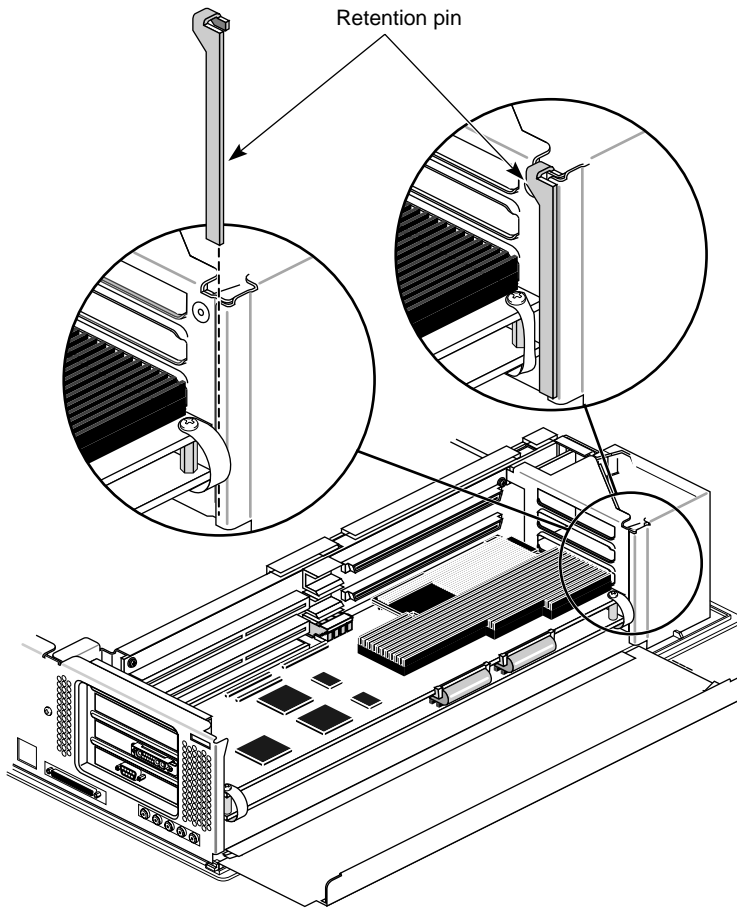

Figure 4-14 Replacing the Retention Pin
4. Hang the retention pin so that it sits in front of the board set. The retention pin prevents the board set from moving away from the connectors. See Figure 4-14.